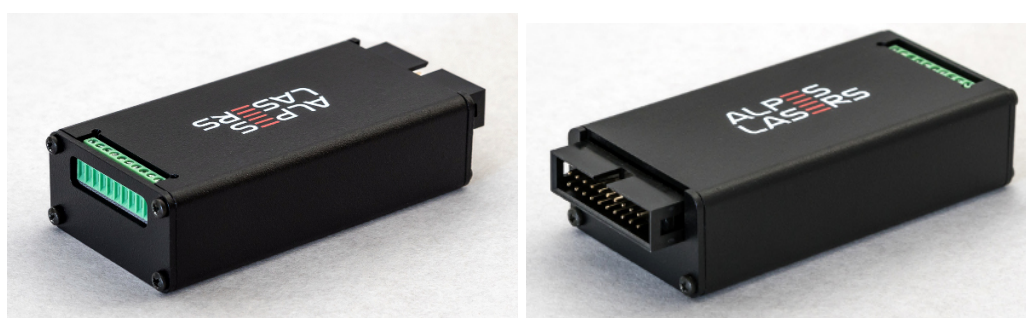

Figure 6.11.: S-2 Pulser in eloxed aluminum box, front end (left) and back end (right).
- integrated by ALPES LASERS in a 75 mm×42.75 mm×22 mm eloxed aluminium box for laboratory use (see figure 6.11);